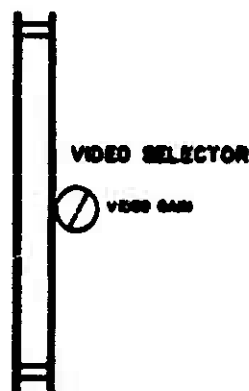

Figure 2-8. VS-1A8 VIDEO SELECTOR
**2.2.4.4 VS-1A8 Video Selector** - This circuit card selects, buffers and outputs one of up to eight input video signals. The selection is controlled by a command sent down the bus by the Serial Chassis Decoder described above. There is a potentiometer on the front of the card which adjusts the gain of the output amplifier (Figure 2-8). This allows the output to be set to 1 Volt peak-peak as specified by the NTSC standard. Note that in the ATR System only two of the input lines are used.